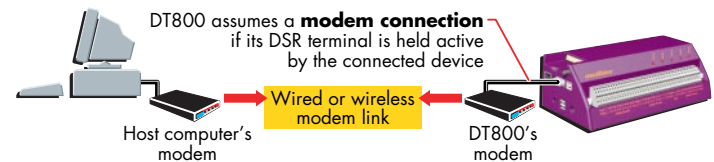

FIGURE 74 DSR active (high)
- If the DT800’s DSR terminal **IS** held active by the connected device, the DT800 assumes that it’s connected to a **modem** (Figure 74) and operates accordingly, initialising the modem, monitoring other Host RS-232 lines to determine when a modem connection to the host computer has been established, and so on.